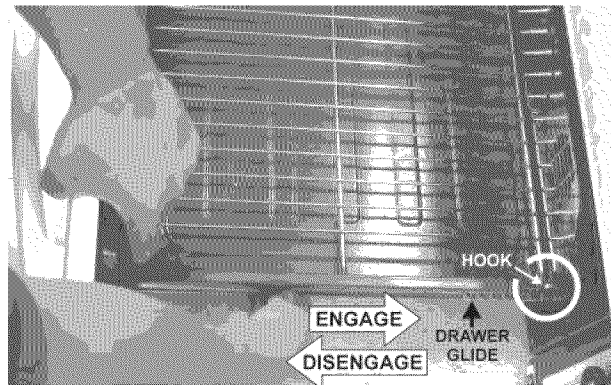

Fig. 2
3. With one hand hold the drawer front in place. Use your other hand to pull the glide away from the oven (See Fig. 2) until the glide hook disengages -*Fig. 3-*.